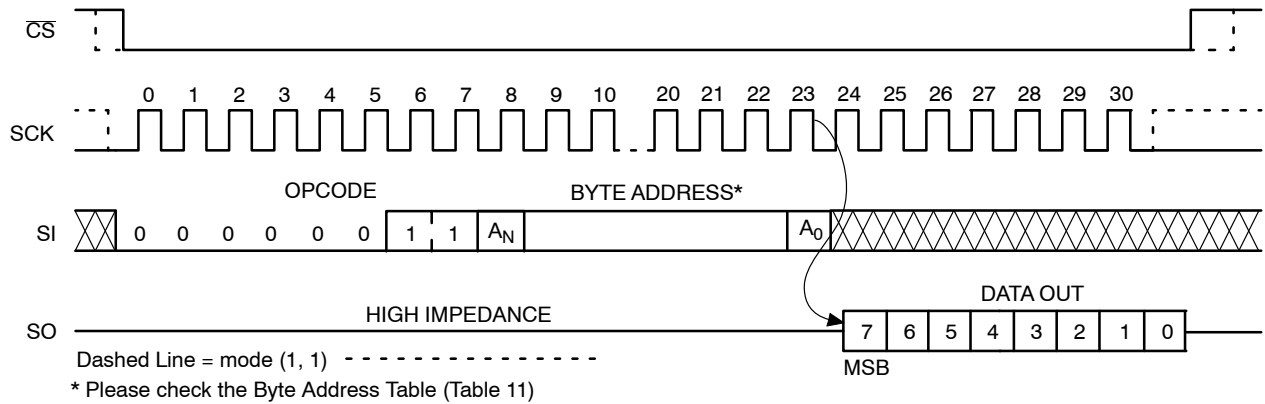

Figure 8. READ Timing
After receiving the last address bit, the NV25xxx will respond by shifting out data on the SO pin (as shown in Figure 8). Sequentially stored data can be read out by simply continuing to run the clock. The internal address pointer is automatically incremented to the next higher address as data is shifted out. After reaching the highest memory address, the address counter “rolls over” to the lowest memory address, and the read cycle can be continued indefinitely. The read operation is terminated by taking  $\overline{CS}$  high.
Reading the additional 64-byte Identification Page (IP) is achieved using the same Read command sequence as used for Read from main memory array (Figure 8). **The IPL bit from the Status Register must be set (IPL = 1) before attempting to read from the IP.** The [A4:A0] are the address significant bits that point to the data byte shifted out on the SO pin. If the  $\overline{CS}$  continues to be held low, the internal address register defined by [A4:A0] bits is automatically incremented and the next data byte from the IP is shifted out. The byte address must not exceed the 64-byte page boundary.